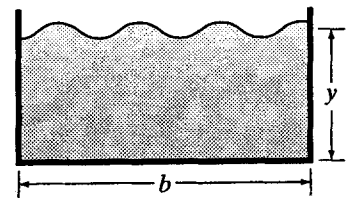

Figure X10.9.1
10.9.2 A long straight rectangular channel 4 m wide is observed to have a wavy water surface at a depth of about 2 m (Fig. X10.9.1). Estimate the rate of discharge.